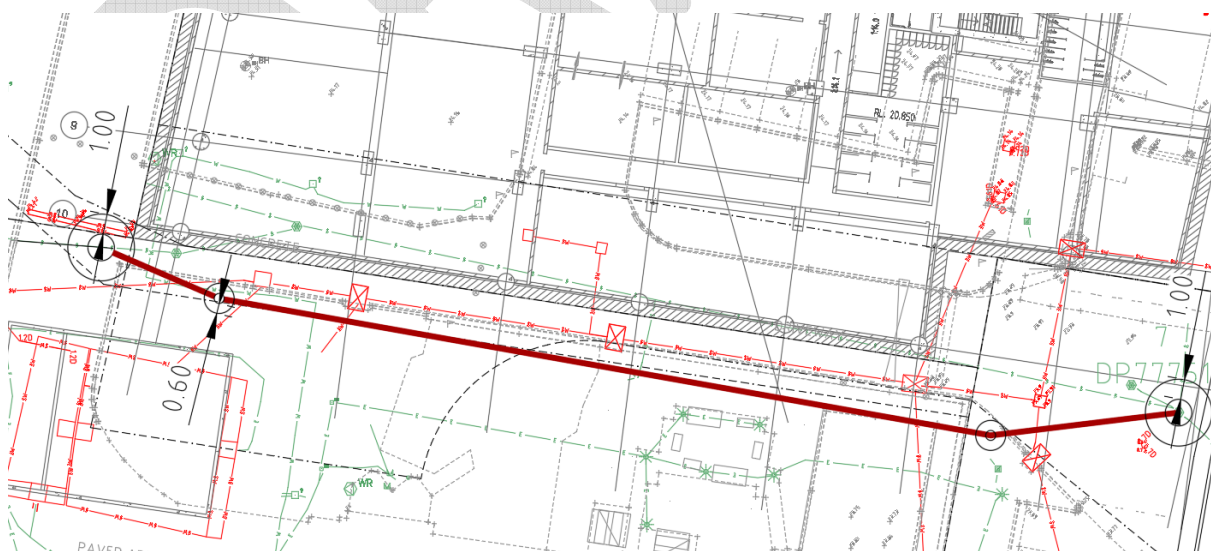

Figure 7-8 Sewer MH and MS working clearance
- Maintenance holes and maintenance shafts have approximately 1m and 0.6m working space around respectively (see Figure 7-8).